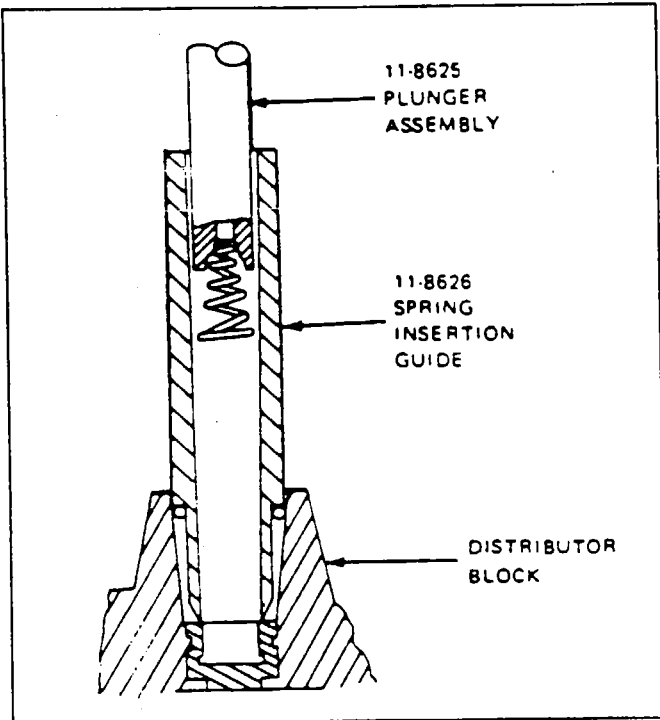

Figure 74-18. Position of 11-8627 Kit and Contact Spring at Start of Installation
6. When lead being replaced is of the elbow type, salvage the used elbow and compression springs for installation on replacement lead. Install these and new sleeve and contact spring (refer to Figures 74-18 and 74-19) furnished with replacement lead per instructions given in Steps 1 thru 4.